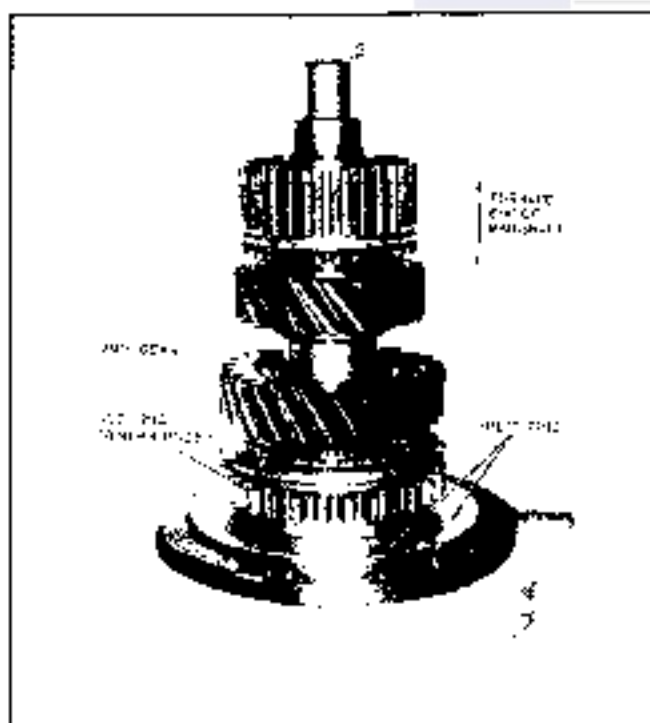

Fig. 7C-14 Installing 1st and 2nd Synchronizer and Second Gear
7. With fork slot downward, press 1st and 2nd synchronizer assemblies onto splines on mainshaft (Fig. 7C-14).
8. Install 1st and 2nd synchronizer snap ring (Fig. 7C-4).